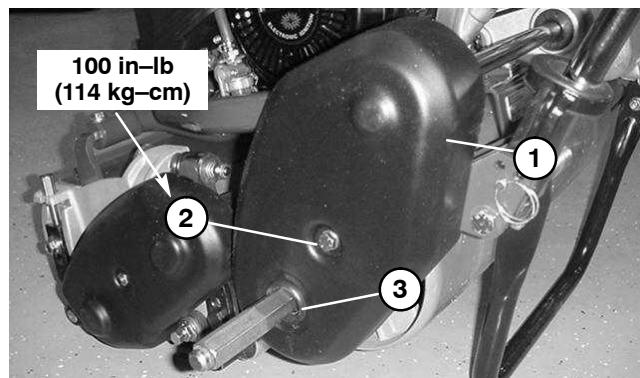
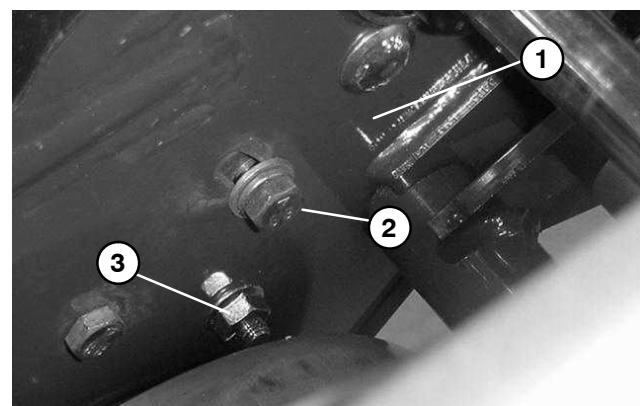

Figure 5
Figure 7
- A. Remove cap screw, flat washer, belt cover (Fig. 5), spacer (under cover), and flange nut (Fig. 7) to expose drive belt.
- A. On back side of side plate, loosen cap screw that secures the idler bracket to the side plate (Fig. 7).
5. Reinstall belt cover by placing the cover with spacer in position and securing with cap screw, washer, and flange nut. Tighten cap screw to 100 in-lb (114 kg-cm). Check that wheel shaft seal position is correct after cover is installed (Fig. 5).